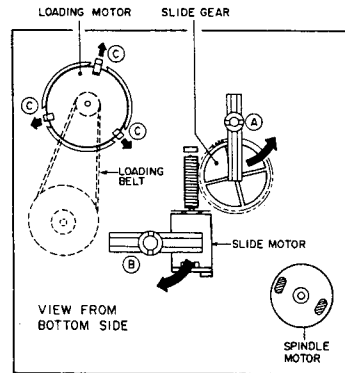

Fig. 3-4
- 1) Turn the ⓐ GEAR HOLDER LEVER counter-clockwise (Fig. 3-4), then pull out the SLIDE GEAR.
- 1) Remove the LOADING BELT, then remove the LOADING MOTOR while releasing the ⓐ hooks (Fig. 3-4).
- 1) Turn the ⓐ SLIDE MOTOR HOLD LEVER (Fig. 3-4) clockwise, then pull out the SLIDE MOTOR.